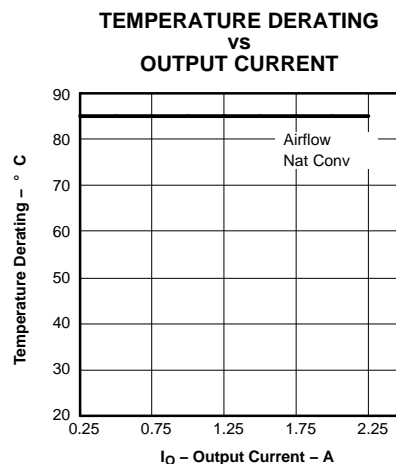

Figure 5.
- (2) The temperature derating curves represent the conditions at which internal components are at or below the manufacturer's maximum operating temperatures. Derating limits apply to modules soldered directly to a 100-mm x 100-mm, double-sided PCB with 2-oz. copper. Applies to Figure 5.